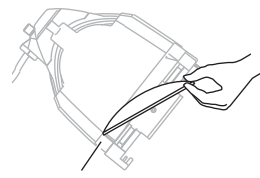

Figure 8
- Step 6: When the lens drops, remove your finger, allowing the lens to slide forward until it rests on the lens catchers. See Figure 8.